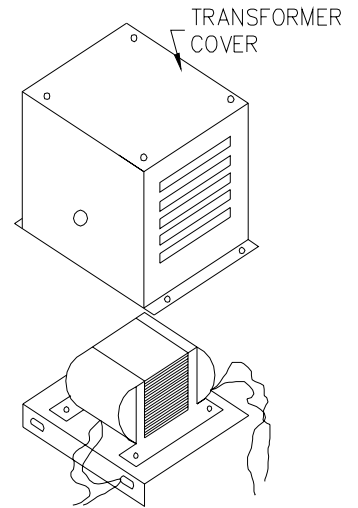

FIG. 3
6. **480V models with single point transformer** - This part must be externally mounted and secured with screws onto the outside of the air handler unit (see fig. 3).
6. **480V "A" model:** The transformer is for use on applications where 480V heaters are being wired into 208/240 volt single phase air handler units. The single point transformer must be externally mounted and secured with screws onto the air handler unit. Use the louvered transformer cover (provided) for protection of this part (see fig. 3). For wiring purposes the wiring on the transformer is labeled and color coded (refer to schematic), Use wire nuts to connect transformer leads to heater.